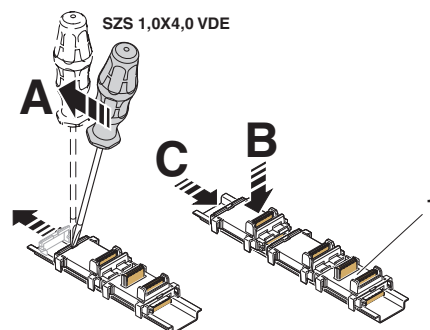

Figure 4-8 Mounting the bus base modules of further AXC F XT ... modules
- To operate the SPLC 1000 on a PLCnext Control AXC F 2152, this requires a special bus base module (1 in Figure 4-8 on page 59).
- For the left alignment of a further module (AXC F XT ...) the cover cap of the previous bus base module must first be removed (A in Figure 4-8 on page 59).
- Remove the cover cap of the bus base module for the AXC F 3152 (A in Figure 4-8).
- Remove the cover cap of the preceding bus base module (A in Figure 4-8).
- Place the bus base modules of the additional AXC F XT ... modules to be aligned on the left on the DIN rail (B in Figure 4-8).
- Push each subsequent bus base module into the connection of the previous bus base module (C in Figure 4-8).